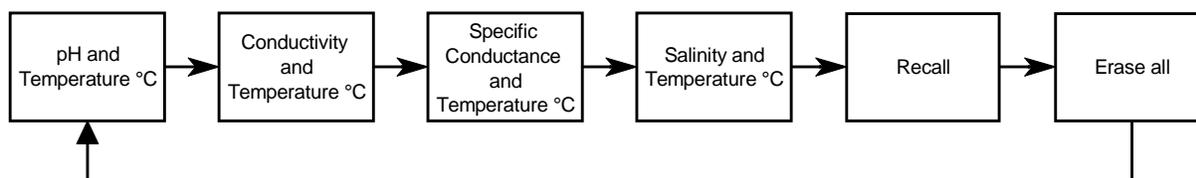

*Figure 6*
5. Insert the probe into the solution deep enough to completely cover the probe. Both conductivity ports must be submerged (see *Figure 6* on the following page).
After the system has been set-up and pH has been calibrated as described in *4.2 pH Calibration*, it is ready to make measurements. Simply insert the probe into the sample, shake gently to remove any trapped air bubbles and wait for the readings to stabilize (approximately 60 seconds). The first pH reading after storage in buffers may take longer to stabilize (5 to 10 minutes), therefore, the probe should be stored in the transport chamber when making field measurements. It is important that the probe be inserted into the sample far enough so that the pH, temperature and conductivity sensors are covered by the liquid (see *Figure 6*).